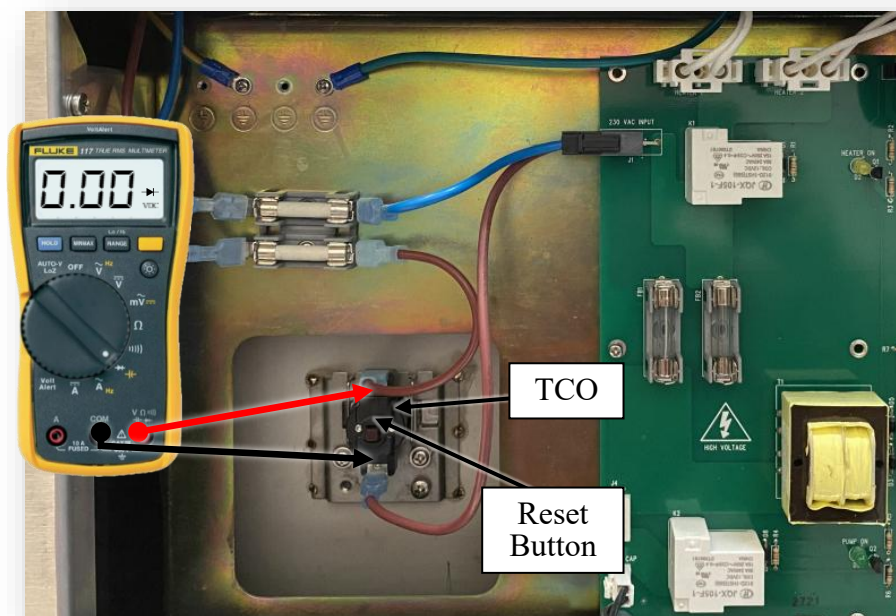

Figure 49 – Thermal Cutoff Switch (TCO)
- a. Unplug the SCA from power and check the Reset Button on the Thermal Cutoff Switch (*See Figure 49*).